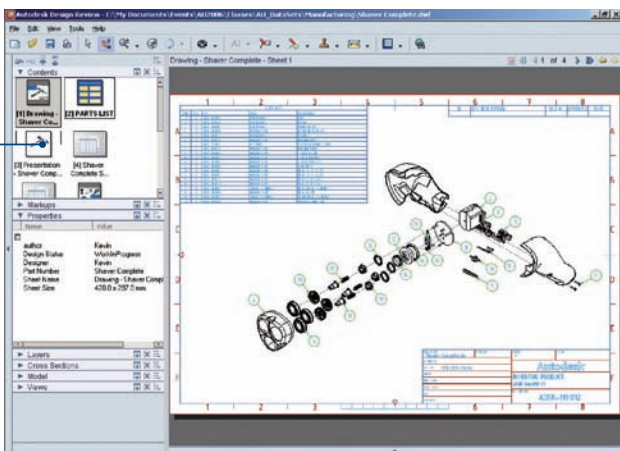

Figure 2.1
1. Select the Zoom Rectangle button  from the main toolbar. **(Figure 2.1)**